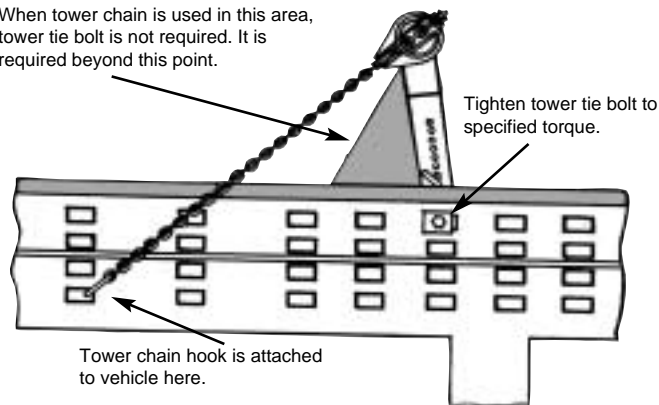

Figure 27
3. Pull from side of tower exceeds 22.5 degree angle from tower arm. (See Figure 27.) This situation does not necessarily force tower up or down, but instead causes tower to twist.